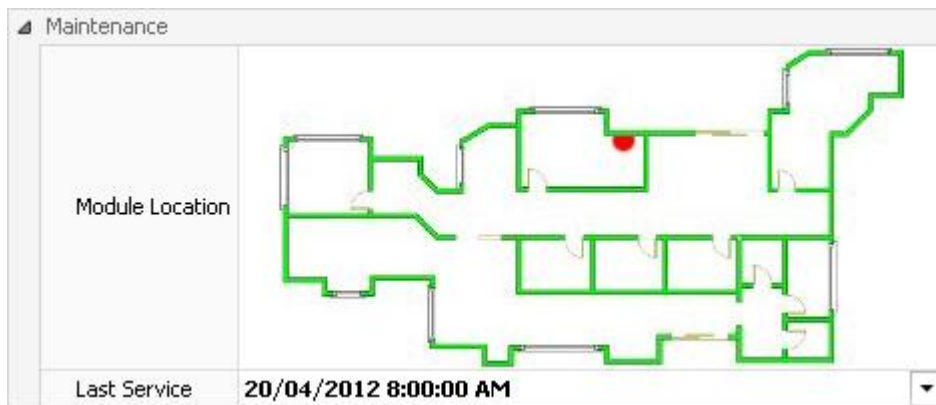

Figure 29
- Powered modules – Date & Time the last service / battery change. (*Figure 29*)
- All modules – Photo / map of physical location of modules. (*Figure 29*)